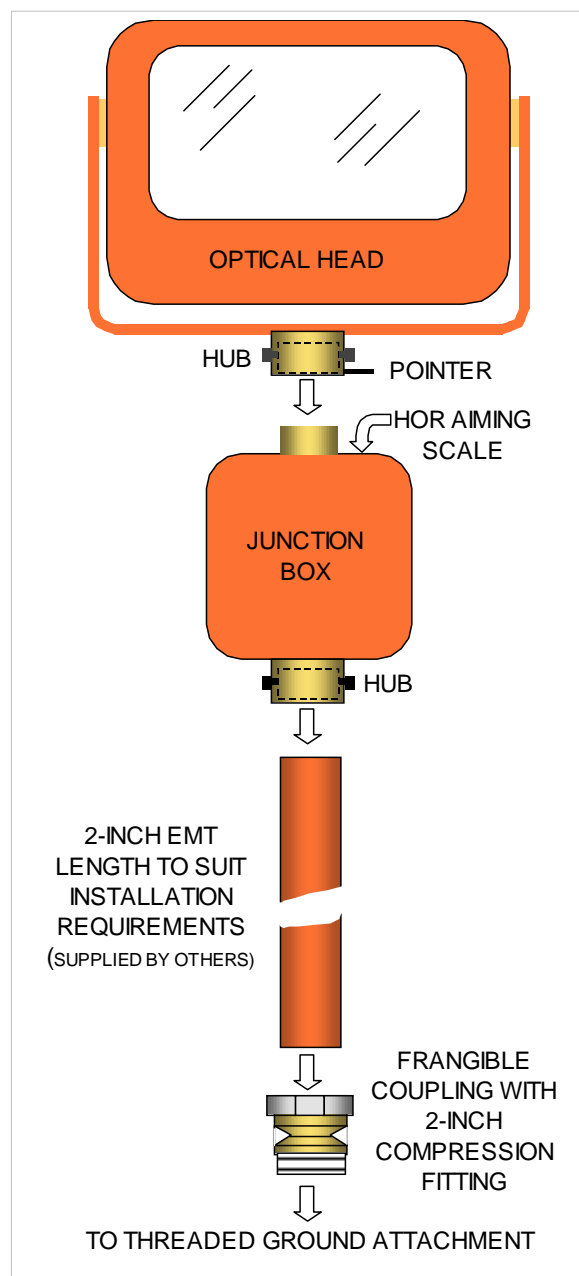

Fig 3
*Height is overall-See Figure 3.
Each Junction Box is supported by a single 2-inch section of EMT and various couplings as shown in Figure 3. The length of the EMT will generally be different from site to site; therefore it is not furnished with the equipment. The length is usually chosen to achieve a certain overall height above grade as called out on site drawings provided by others.
Mounting and Assembly Details (Refer to Figure 3)